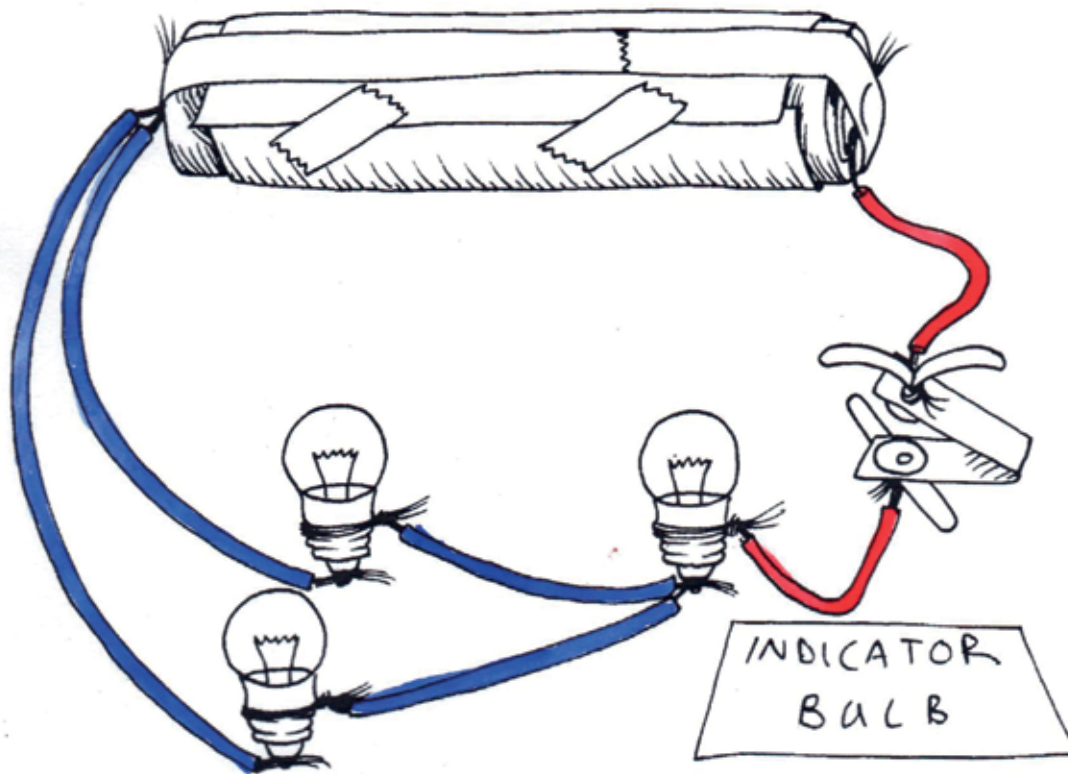
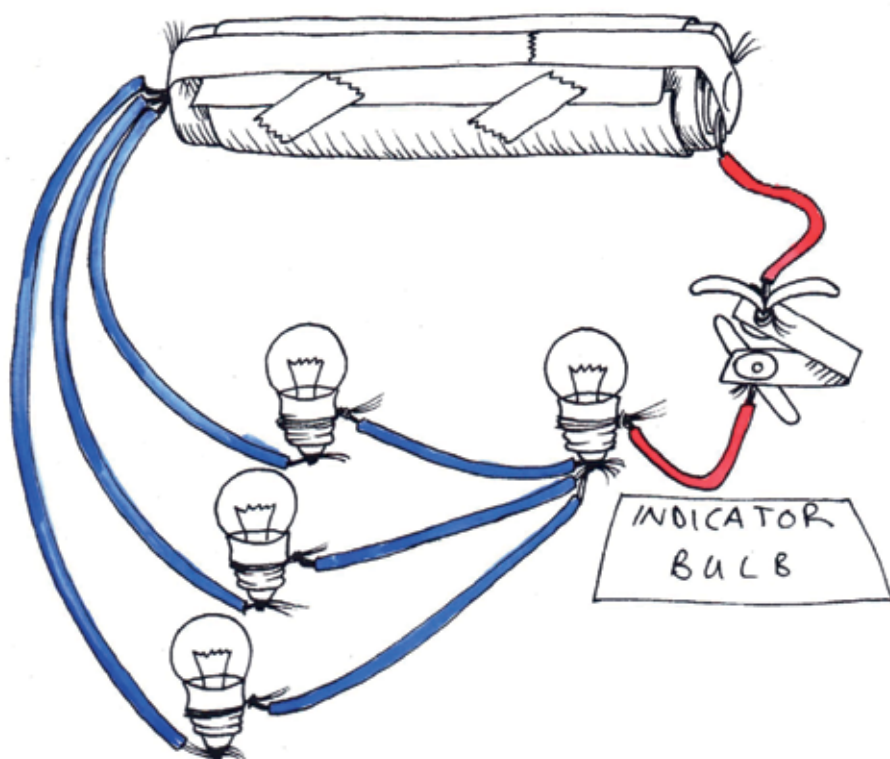

Figure 6
Figure 7
Now connect the two light bulbs in a different way, as shown in Figure 6 below.
Look at the circuit in Figure 7.
2. Will the indicator bulb be as bright, brighter or dimmer than in Figure 6?
3. Test your idea. Make the circuit in Figure 6 and then add a bulb as in Figure 7